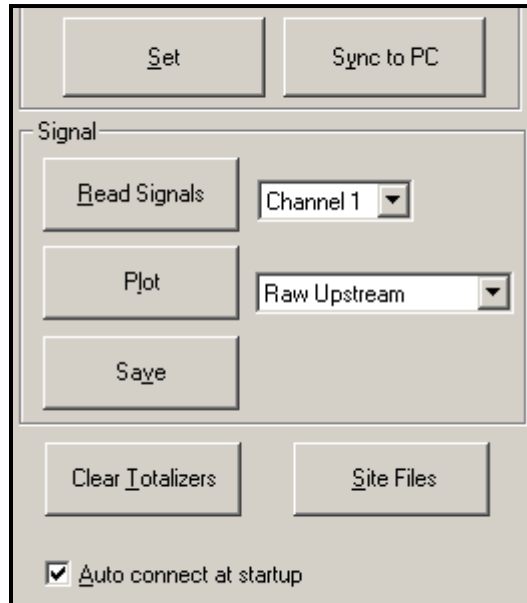

Figure 27: Active Signal Options in Properties Window
1. Click on the *Read Signals* button. (If the meter is a multi-channel instrument, open the Channel drop-down menu and click on the desired channel.) After a moment, the *Properties* window appears similar to Figure 27 below.